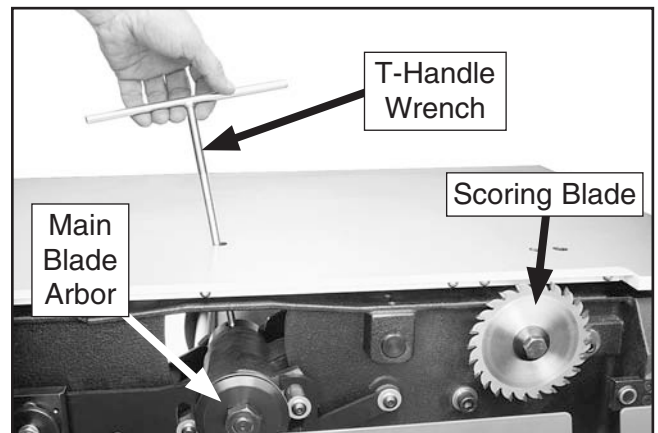

Figure 13. Blade arbors exposed.
1. Use the elevation handwheel on the right side of the cabinet to raise the main blade arbor all the way up, then open the blade safety cover to expose the blade arbors, as shown in **Figure 13**.
2. Insert the provided T-handle wrench through the table top hole shown in **Figure 13** and into one of the holes in the main blade pulley under the table top. This will keep the blade arbor from rotating during the next step.